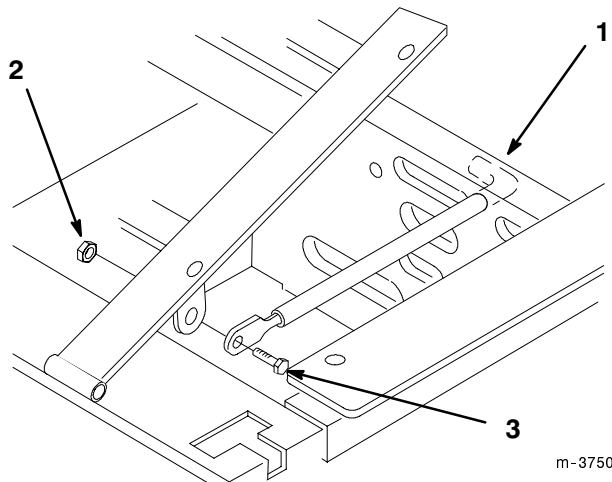

Figure 3
1. Tilt seat up. Remove locknut (5/16 in.) from bolt attaching seat retaining rod to seat frame (Fig. 3).
2. Remove retaining rod from seat and insert the "L" shaped end of the rod into the hole directly above the left-side hydraulic pump (Fig. 3).
3. Place the seat retaining rod to the outside of the mounting tab of the seat frame and secure with bolt (5/16 x 1 in.) and locknut (5/16 in.) (Fig. 3).